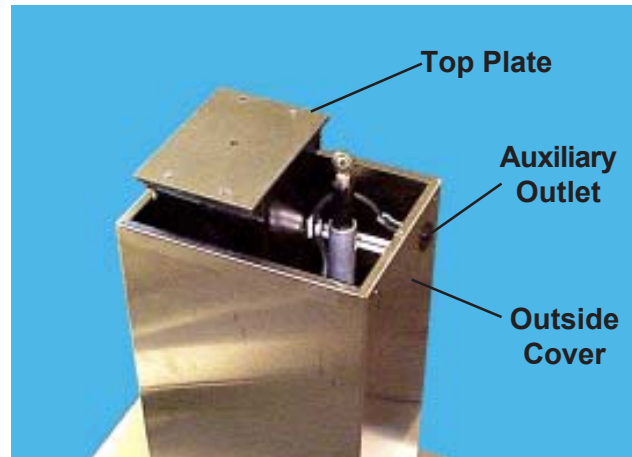
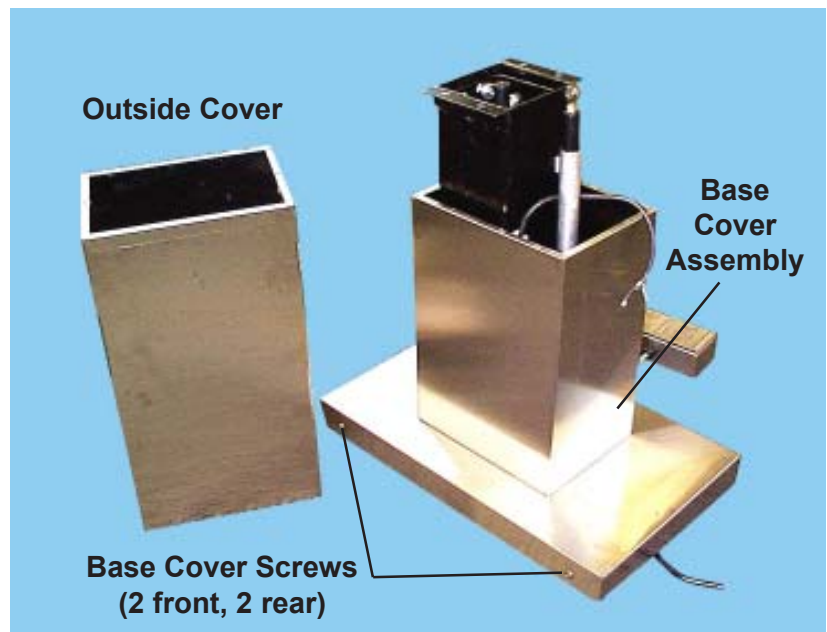

Figure 31. Base with Cap Removed
Figure 35. Outside Cover Removed from Base
10. Lift off the top plate (Figure 31).
14. Lift the outside cover up and off of the base cover assembly (Figure 35).
15. Lay the base down so that you can reach the base cover screws on one side (Figure 35). **Note:** Be careful not to damage the electric power cord or foot controller cord.
8. Secure the base cover assembly with the four base cover screws (Figure 35).
9. Drop the outside cover over the base cover assembly (Figure 35). **Note:** Make sure the opening for the auxiliary outlet is on the same side of the main column as the actuator (Figure 31).
14. Place the top plate in position on top of the column (Figure 31). **Note:** The side of the plate with the square metal piece bonded to it is the bottom.